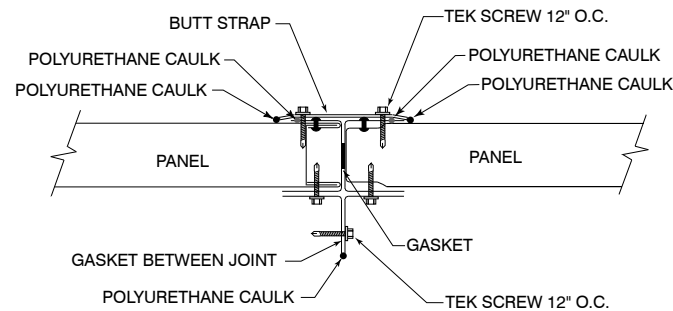

FIGURE 4. Detail of field joint located on side.
- 6) After positioning the module correctly, install continuous gasket material on field joint flange as indicated in **FIGURE 4**.
- 13) Complete field joint assembly by applying polyurethane caulk to the exterior of the joint and then cover with butt strap as shown in **FIGURE 4**.